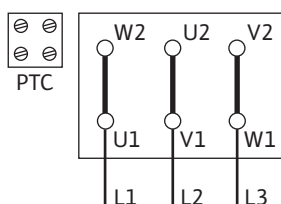

Fig. 10: Y-Δ start
- The mains connection is dependent on the motor power  $P_2$ , mains voltage and activation type. Refer to the following table and Fig. 10, 11 and 12 for the required connection of the connection bridges in the terminal box.